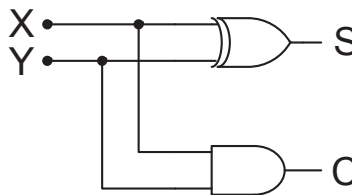

Figure 2: Half Adder Circuit
- 2.1. Write a gate level Verilog program to implement the half adder circuit in Figure 2.